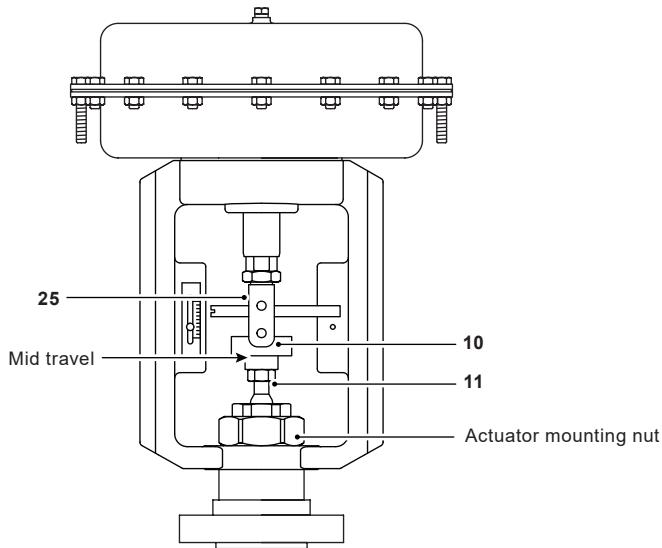

Fig. 4
- Place the anti-rotation/indicator plate (13) onto setting screw (10) and screw lock nut (25) onto setting screw (10).
- Fully screw setting screw (10) into actuator spindle (6) (pay attention to locate anti-rotation/indicator plate into the yoke ribs).
- Apply the control signal pressure required to bring the spindle to mid-travel position (Figure 4). Place the actuator yoke over the valve spindle and locate it onto the bonnet shoulder. Hand tighten the mounting nut.
- Fit the valve adaptor (11) onto the valve spindle then manually push the valve plug to its closed position.